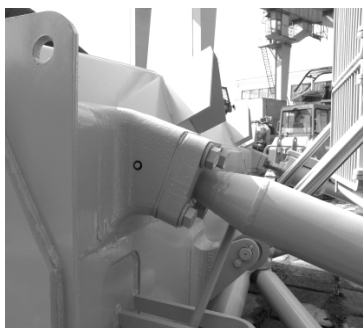

FIGURA 5-13
7. ENGRAXE O BRAÇO (VER A FIGURA 5-13) EM 1 PONTO.